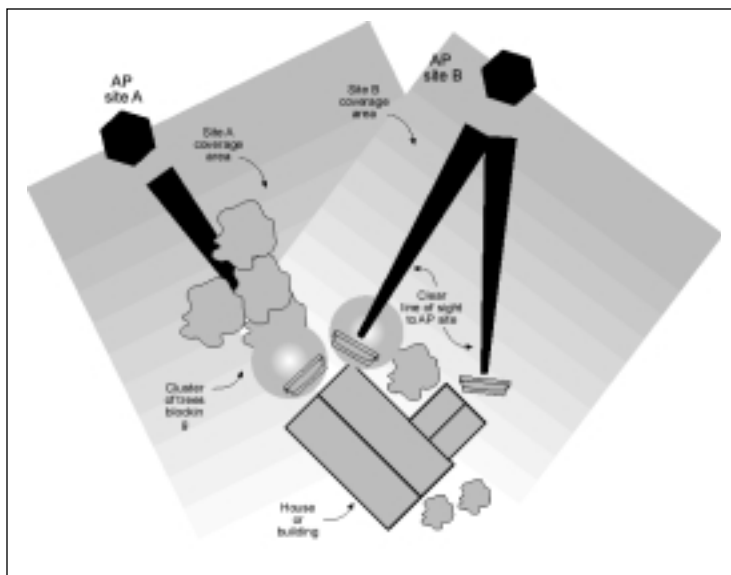

Figure 2-4 Selecting an Access Point
1. Using the compass bearings you wrote down in the previous section, walk around your building to find a suitable line of sight path to mount your outdoor transceiver – see Figure 2-4.
You should mount your outdoor Subscriber Unit as high as possible on your building, and align it to the compass reading you have just taken. For example, the previous Figure 2-4 shows the path to Access Point A obstructed by a cluster of trees. However, there are two possible mounting locations for the outdoor Subscriber Unit giving a clear line of sight to Access Point B.